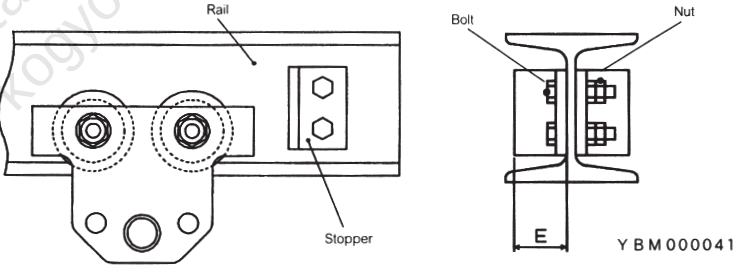

Figure 2
- Prepare stoppers according to Table 2 and Figure 2. Decide the mounting position depending on the wheel size.